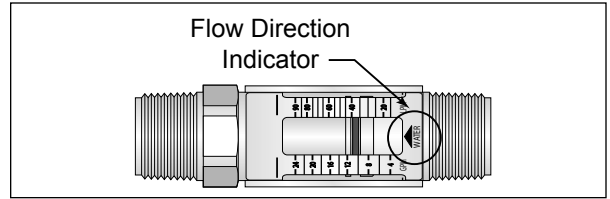

Figure 3. Flow Direction Indicator
These meters only accept flow in one direction. Make sure to align the Flow Arrow, located on the bottom of the meter's flow scale, in the same direction as the anticipated line flow. See Figure 3.
3. Thread the flow meter and coupling onto the inlet pipe and hand tighten. Make sure the flow direction arrow on the flow meter corresponds with the system flow direction. See Figure 3.
6. Make sure the flow direction arrow on the flow meter corresponds with the system flow direction. See Figure 3 on page 4. Lubricate the union O-ring and connect the union together.
8. Place flow meter between the two installed fittings. Make sure the flow direction arrow on the flow meter corresponds with the system flow direction. See Figure 3 on page 4. Thread the two hex couplers onto the flow meter body.
2. Thread the inlet of the flow meter onto the appropriate pipe connection. Make sure the flow direction arrow on the flow meter corresponds with the system flow direction. See Figure 3 on page 4.